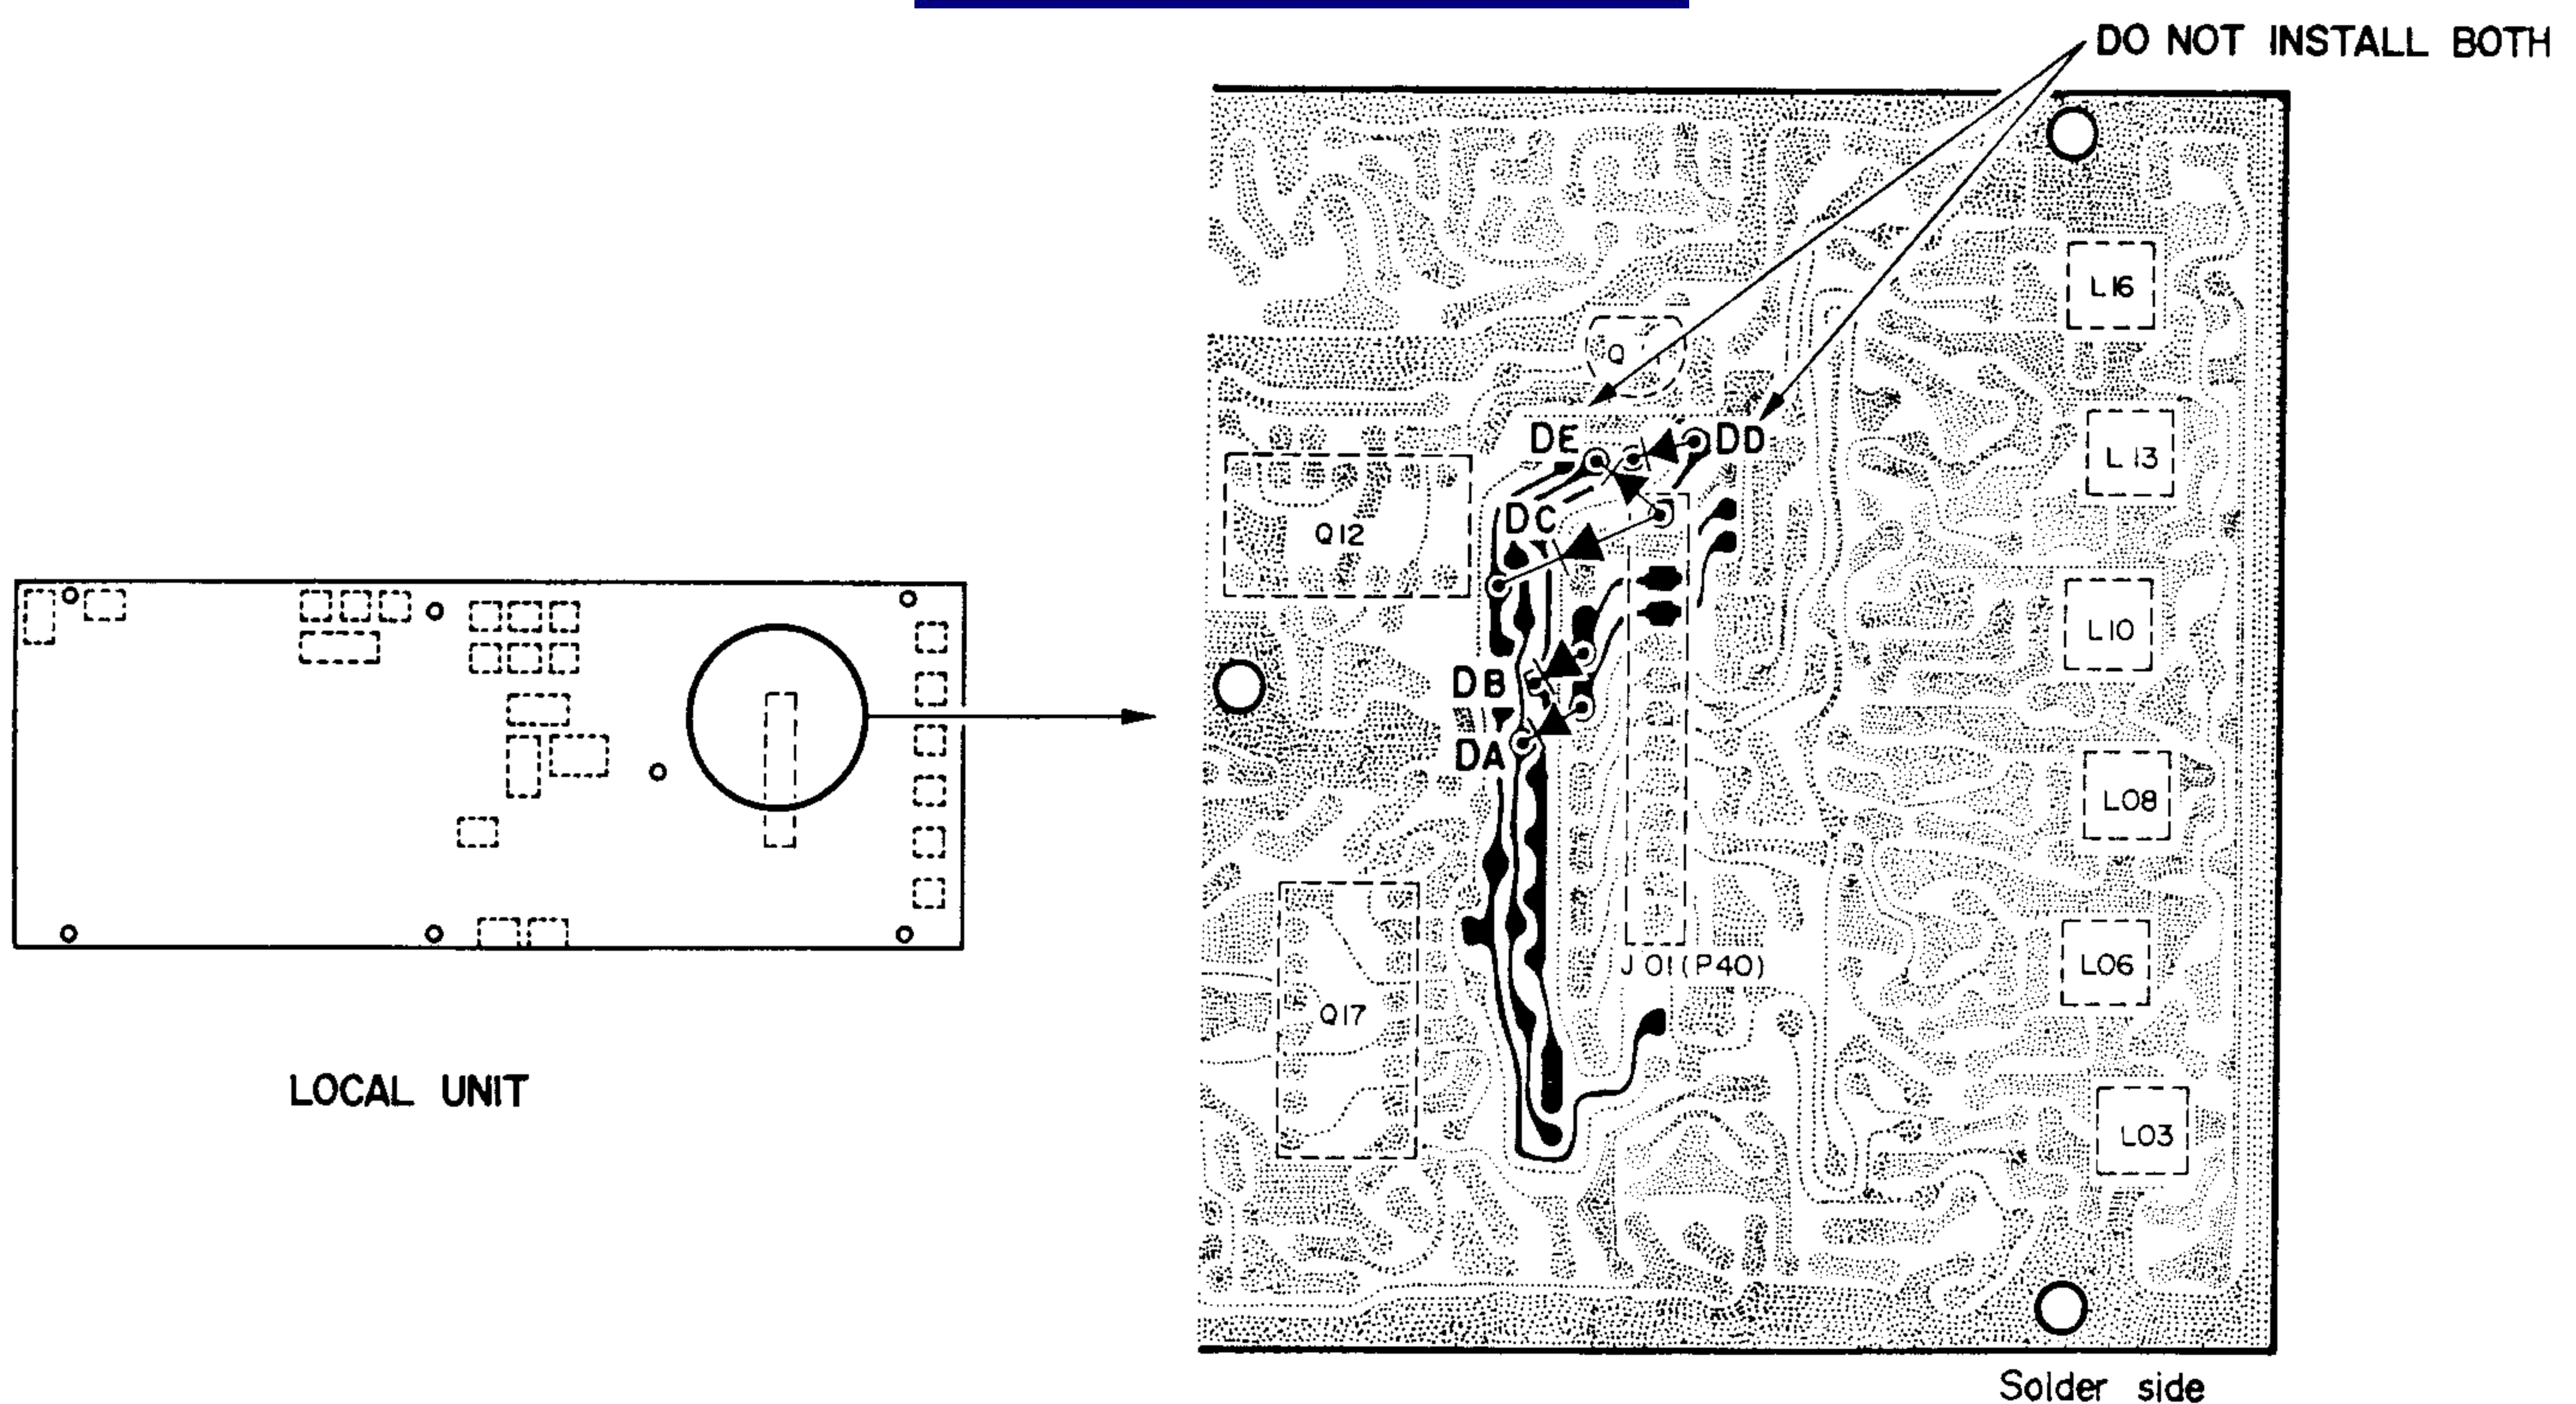

Figure 5
2. Install 1SS53 diodes (white band) on the solder side of the Local Unit at the locations shown in Figure 5, making sure that the banded ends of the diodes are aligned as indicated. Install  $D_D$  for 28.0–28.5 MHz, or  $D_E$  for 28.5–29.0 MHz (DO NOT INSTALL BOTH). Then perform step 5 of the previous modification procedure.